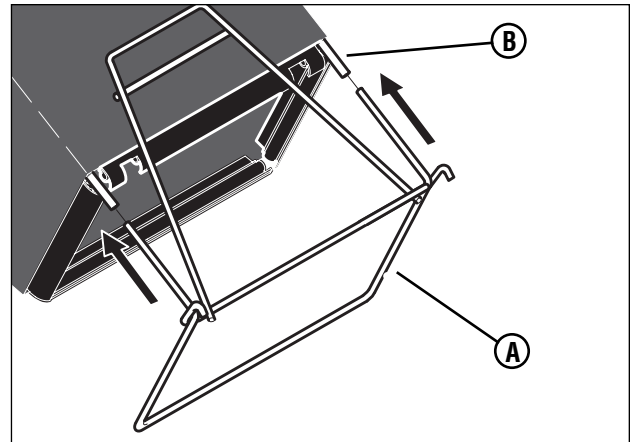

Figure 5: Installing the frame assembly
1. Slide the frame assembly **(A, Figure 5)** into the ends of the support tube **(B)**. Make sure the frame assembly is fully inserted into the support tube.